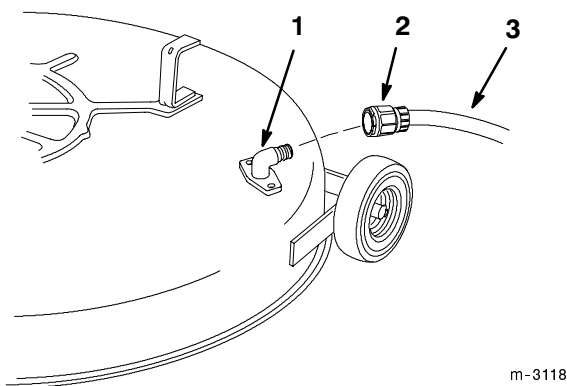

Figure 50
2. Attach hose coupling to the end of the mower washout fitting, turn water on high (Fig. 50).